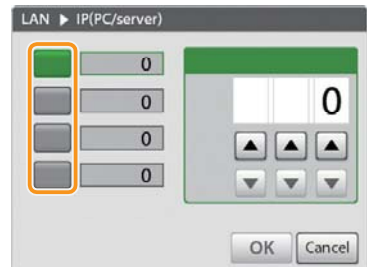

Figure 3-91
3. Tap the button of the address value you want to input. (Figure 3-91)